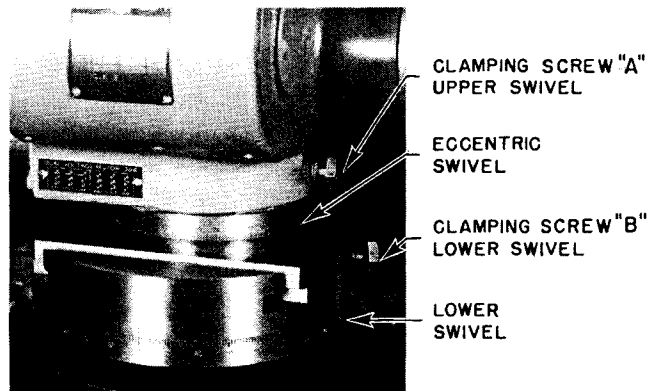

Figure 16C
This additional movement of the wheelhead in the horizontal plane is obtained through two independent angular (360°) adjustments. The upper swivel (Figure 16C) carrying the grinding wheel is mounted eccentrically with respect to the lower swivel (Figure 16C) which is attached to the top of the wheelhead column. Both the upper and lower swivels may be rotated through 360°.
The eccentric arrangement (Figure 16C) adds 3" of range to the 4½" conventional movement of the cross adjustment (wheelhead slide). This not only permits positioning the grinding wheel directly over the table for surface grinding (Figure 16E), but in most instances eliminates the need
**Swiveling the Wheelhead.** Loosen clamping screw "A" (Figure 16C), swivel grinding wheel to the desired setting, then retighten screw. For additional range provided by rotating the lower swivel loosen lock screw "B" (Figure 16C), swivel the wheelhead to the desired setting, then tighten screw. Each swivel may be rotated through 360°.